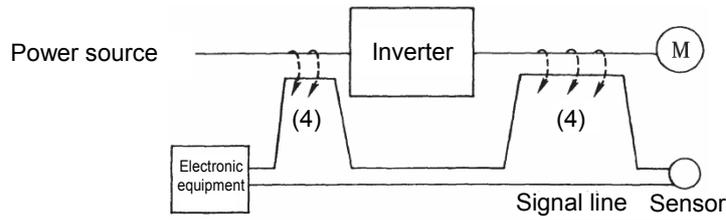
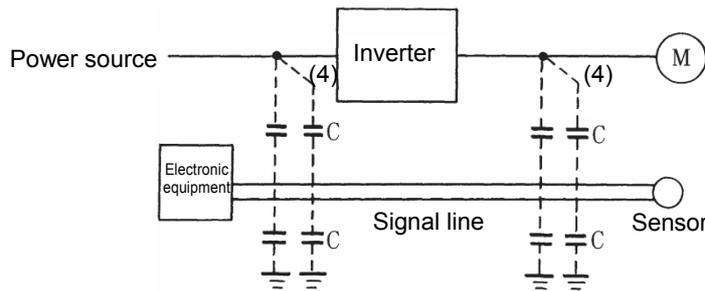

Figure A-4 Electromagnetic Induced Noise
Figure A-5 Electrostatic Induced Noise
(2) Induction noise
When wires or signal lines of peripheral devices are brought close to the wires on the input and output sides of the inverter through which noise current is flowing, noise will be induced into those wires and signal lines of the devices by electromagnetic induction (Figure A-4) or electrostatic induction (Figure A-5). This is called "induction noise" (4).